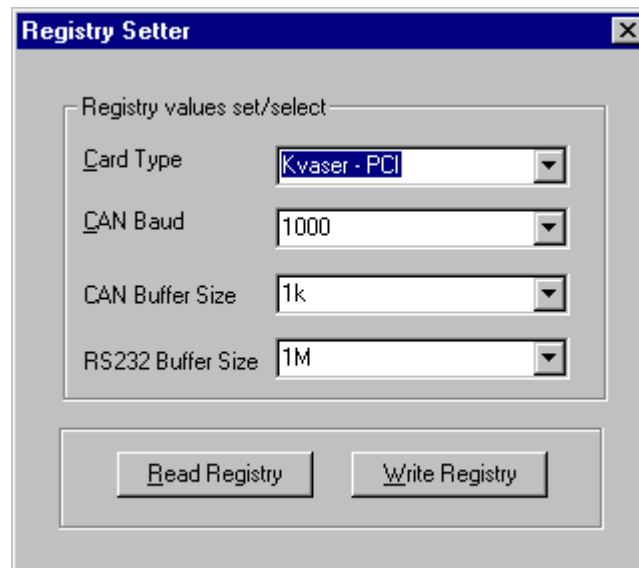

Figure 67: DCOM Communication Registry Setup
A simple dedicated Windows application and code is provided to access the following global Registry Database parameters (see Figure 67):
3. On the "File" menu, click "COM Registry", in the SCServerScope – Nanomotion Ltd. dialog box, to set the registry variables, see Figure 67.